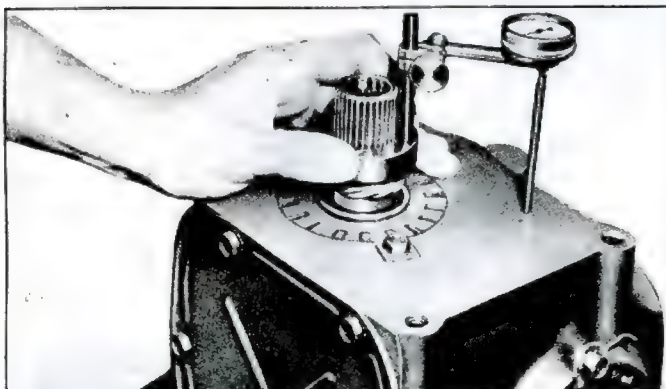

Fig. 9—Mounting Difference with J-8364 and Dial Indicator
- Place J-8364 and dial indicator on governor gear on the differential carrier pinion shaft as illustrated (fig. 9) and lower support slowly so that revolutions of indicator needle can be counted. Measurement starts once the indicator needle again reaches zero. Fully depress support on governor gear, note indicator reading and refer to the following chart for spacers to be installed on governor gear.